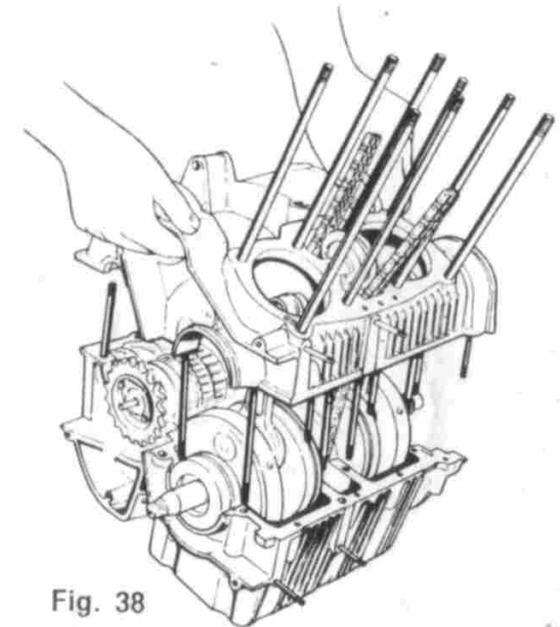

Fig. 38
- 5) Insert the stud bolts of the crankcase upper portion into their respective holes in the lower portion, and tighten all nuts (Fig. 38).